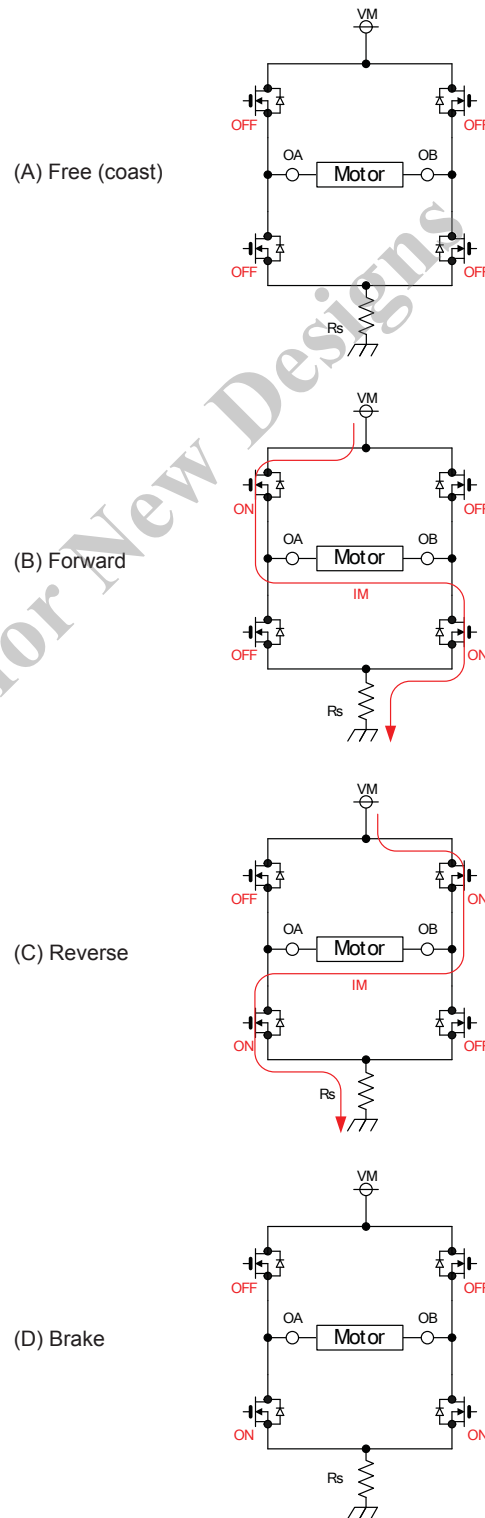

Figure 1. The panels demonstrate the MOSFET switching conditions and the resulting current flow for each of the four motor control states.
**Free (Coast)** This state is set by low signals on both the IN1 and the IN2 logic inputs. All MOSFETs are turned off, and no current flows through the device to the motor. The motor is totally free to spin. The MOSFET states are shown in figure 1(A).
**Forward** This state is set by a high signal on the IN1 input and a low signal on the IN2 input. The high-side MOSFET on the OA side is turned on, and the low-side MOSFET on the OB side is turned on. Current flows through the device to drive motor rotation (the terms "forward" and "reverse" only serve to indicate opposite relative directions). The MOSFET states are shown in figure 1(B).
**Reverse** This state is set by a low signal on the IN1 input and a high signal on the IN2 input. The low-side MOSFET on the OA side is turned on, and the high-side MOSFET on the OB side is turned on. Current flows through the device to drive motor rotation (the terms "forward" and "reverse" only serve to indicate opposite relative directions). The MOSFET states are shown in figure 1(C).
**Brake** This state is set by high signals on both the IN1 and the IN2 logic inputs. Both high-side MOSFETs are turned off, and both low-side MOSFETs are turned on. The motor coils are shorted together providing resistance to rotation. The MOSFET states are shown in figure 1(D).